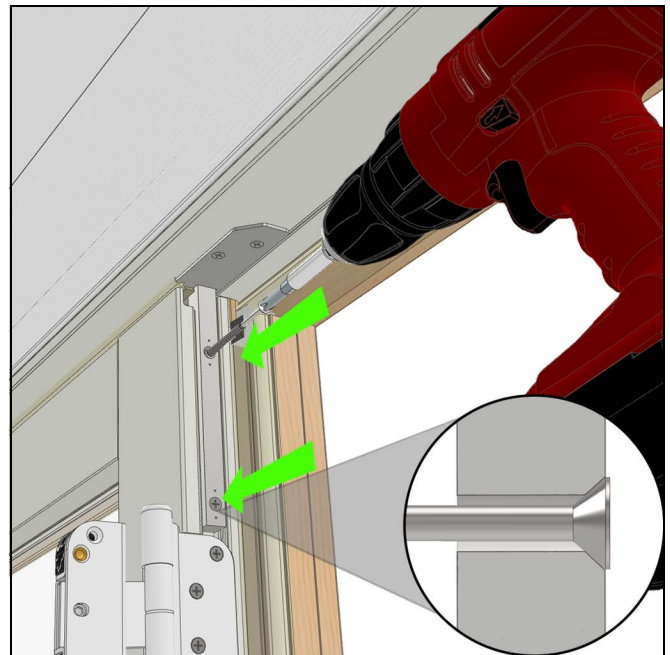

Figure 16
4. Install the 2-1/2" stainless flat head screw into the hole left by removing the panel screw. Drive until it sits flat with the lock bar face. Pre-drill and then fasten another 2-1/2" stainless screw into the other hole until it sits flat with the lock bar face. See Figure 16.